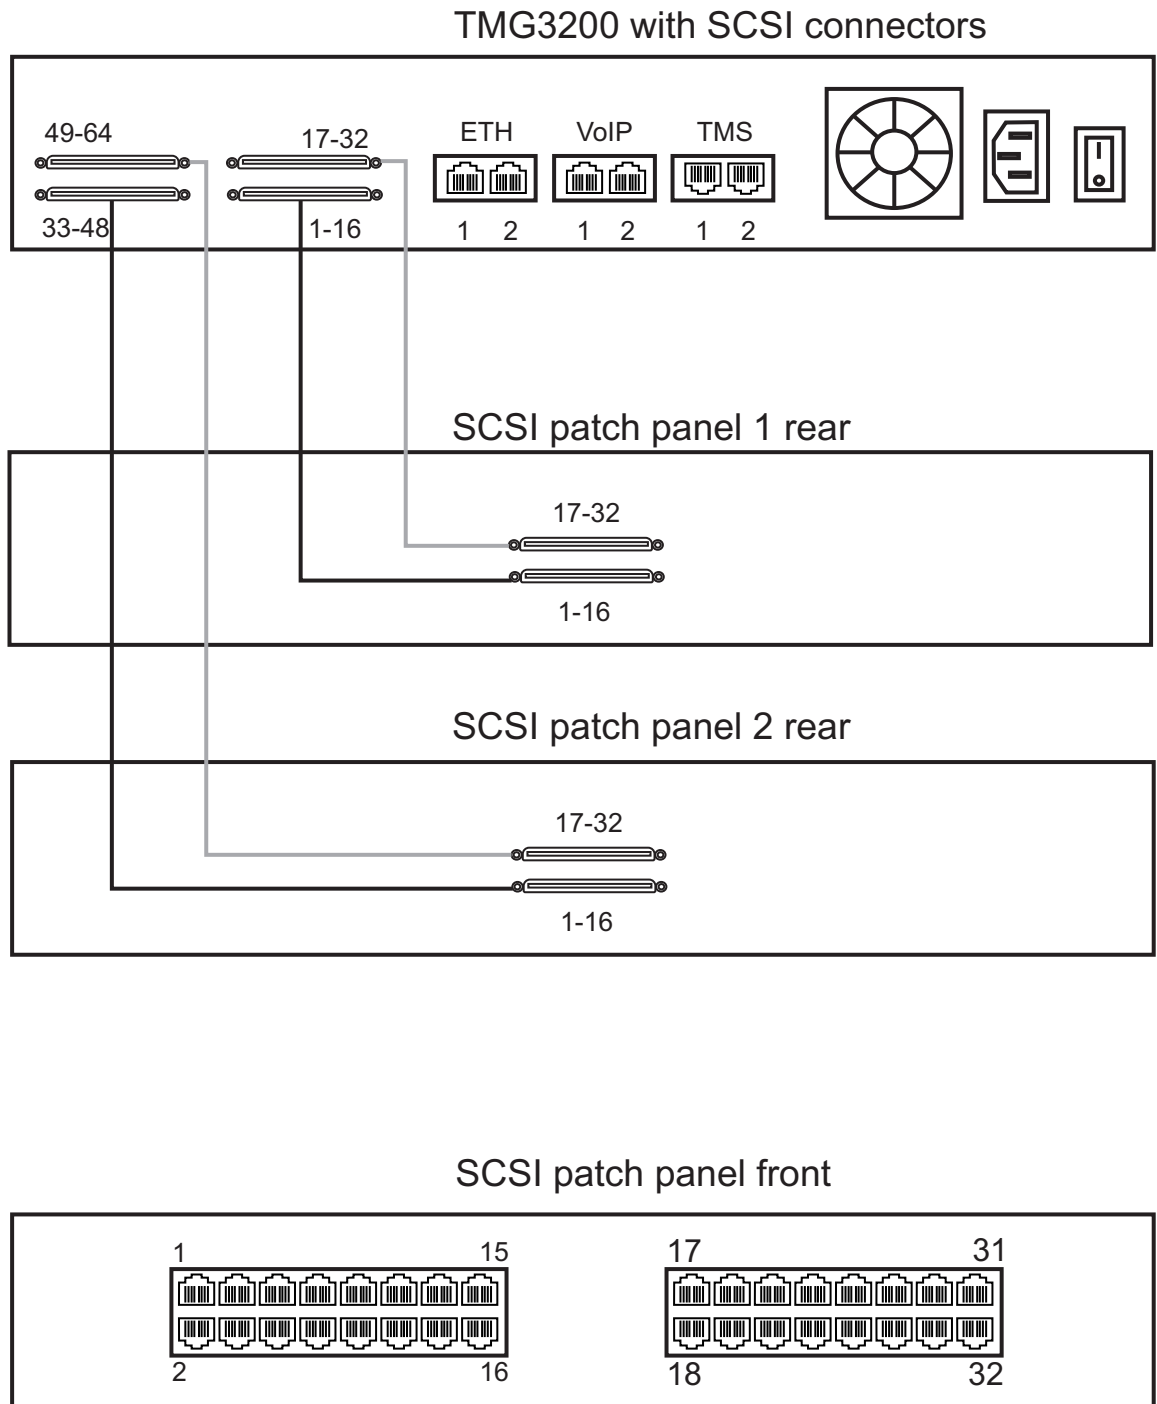

Figure 2.6 SCSI Interface to the PSTN
A TMG3200 with 4 SCSI connectors enables the connection to T1/E1/J1 lines. The termination impedance is set at 120 ohms. It is possible to connect an external balun in order to convert to 75 ohms. See figure 2.6 on page 16
1. Start with the SCSI ports 1-16 located at the bottom right as shown in figure 2.6 on page 16. Connect one SCSI cable between this port and SCSI patch panel number 1, ports 1-16. Connect SCSI ports 17-32 to patch panel number 1, ports 17-32.